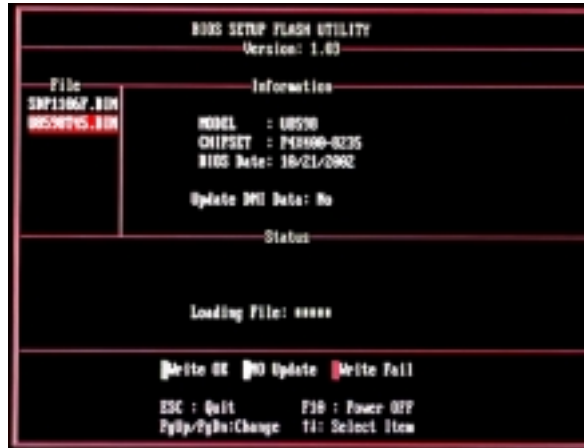

Figure 3
7. Press [Enter] to load the BIOS from the floppy disk, refer to Figure 3.